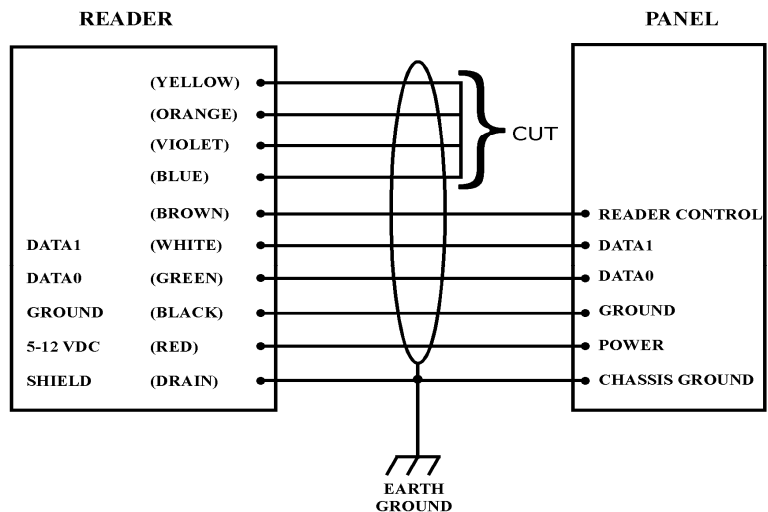

FIGURE 2. Wiring Diagram (Wiegand)
3. Connect the reader's ground, Data-0, Data-1, Reader Control, and power (see Figure 2). **Do not connect orange, yellow, blue, and violet wires to anything. Tape or cap the unused wires separately.**
- 5 conductors (not twisted-pair), stranded, 22 gauge, color-coded insulation, overall 100% shielded (Fig.2).